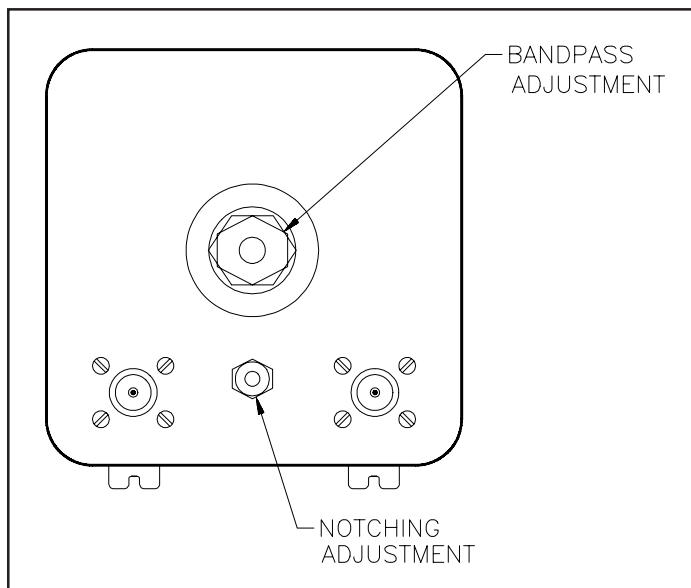

Figure 1 - Adjustment Screws
2. On each cavity, loosen the hex nut that locks the threaded tuning rod. (See Figures 1 and 2)